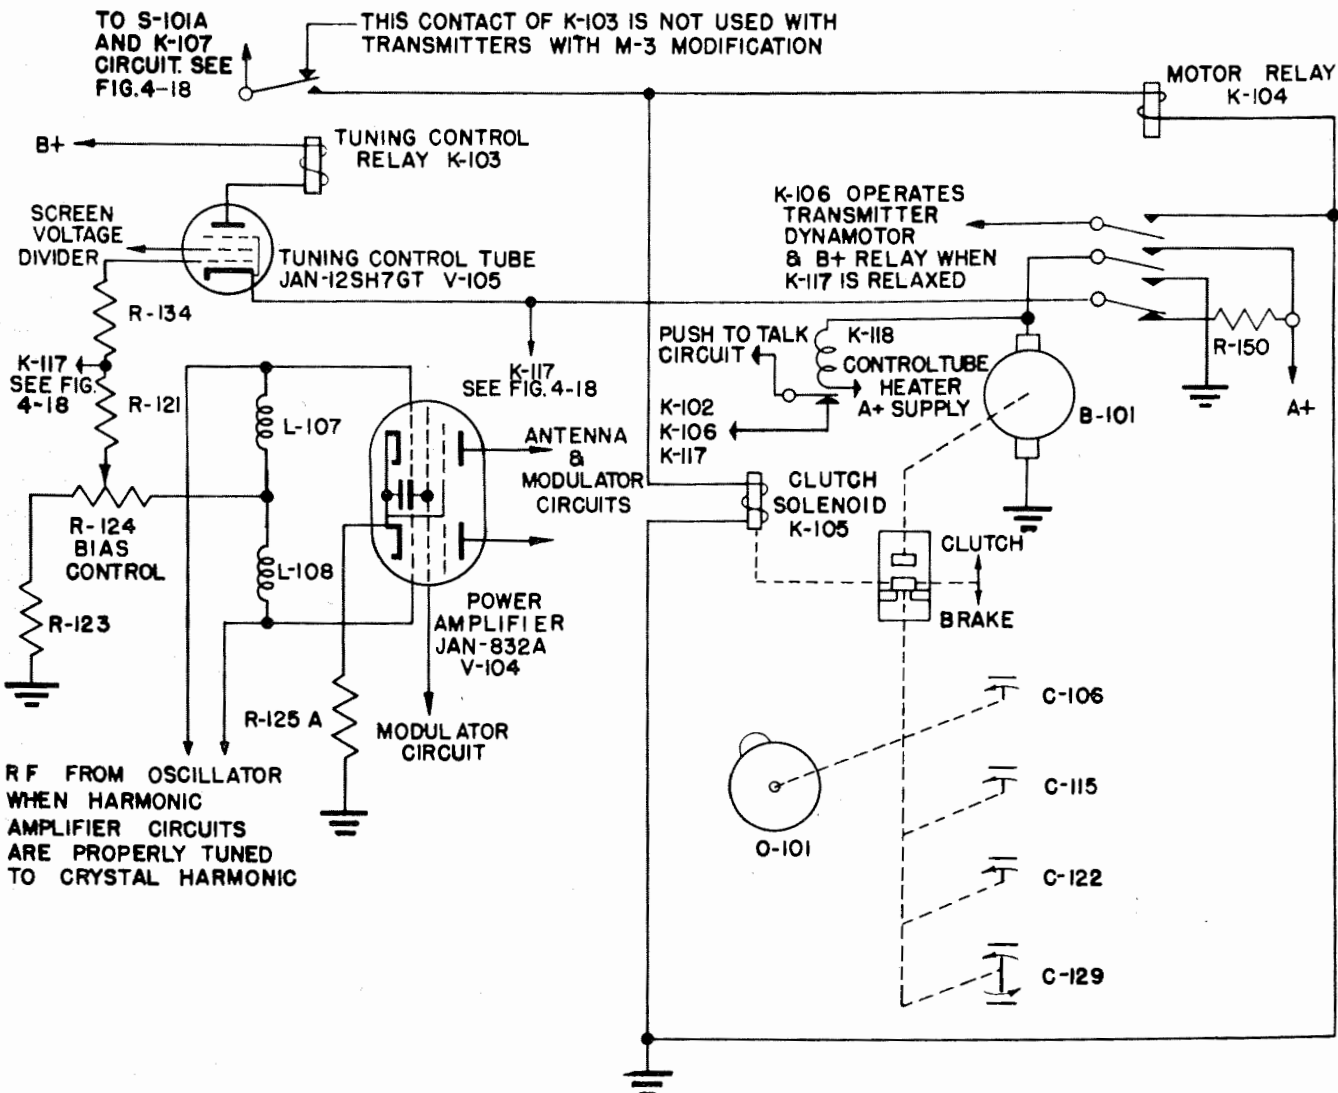

Figure 4-16. Radio Transmitter T-67/ARC-3 or T-312/ARC-36 With Modification M-3—Basic Tuning Control Circuit
(a) The variable capacitors C-106, C-115, C-122, and C-129 and Cam O-101 are driven through the clutch-brake mechanism by motor B-101. (See fig. 4-16 or 4-17.) Operation of the motor is controlled by a pair of contacts on motor relay K-104, which also contains other contacts necessary to the operation of the circuit.
(d) The basic operation of the tuning control circuit (see fig. 4-16 or 4-17) is as follows:
e. Cam O-101, which is being driven by the motor, is located on top of Variable Capacitor C-115. The upper face is calibrated to indicate frequency. (See fig. 4-16 or 4-17.) At one point along the circumference there is a small projection. As the cam enters the uncalibrated portion of its travel, this projection strikes an extended arm on switch S-101A and pushes it to one side. This separates the contacts of the switch until the projection has rotated past. This has no electrical effect, since the switch contacts are shorted by a contact on relay K-107.
(1) For Radio Transmitter T-67/ARC-3 or T-312/ARC-36 with modification M-3: As the cam again enters the calibrated portion of its travel, it opens switch S-101B, located on the opposite side of the cam. This momentarily removes the A+ connection from relay K-107 and causes it to open. Since its contact opens, the relay now has no connection to A+ and cannot close again. Relays K-108 and K-117 also open and remain open.